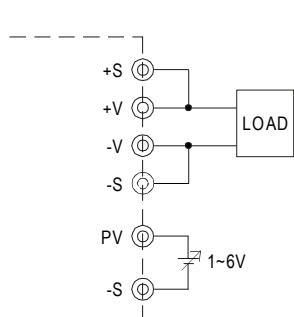

Fig. 3.1 Add on 1~6V external voltage
(1) Connecting an external DC source between PV & -S on CN1 or CN2, and +S & +V, -S & -V also need to be connected that is shown in Fig. 3.1.